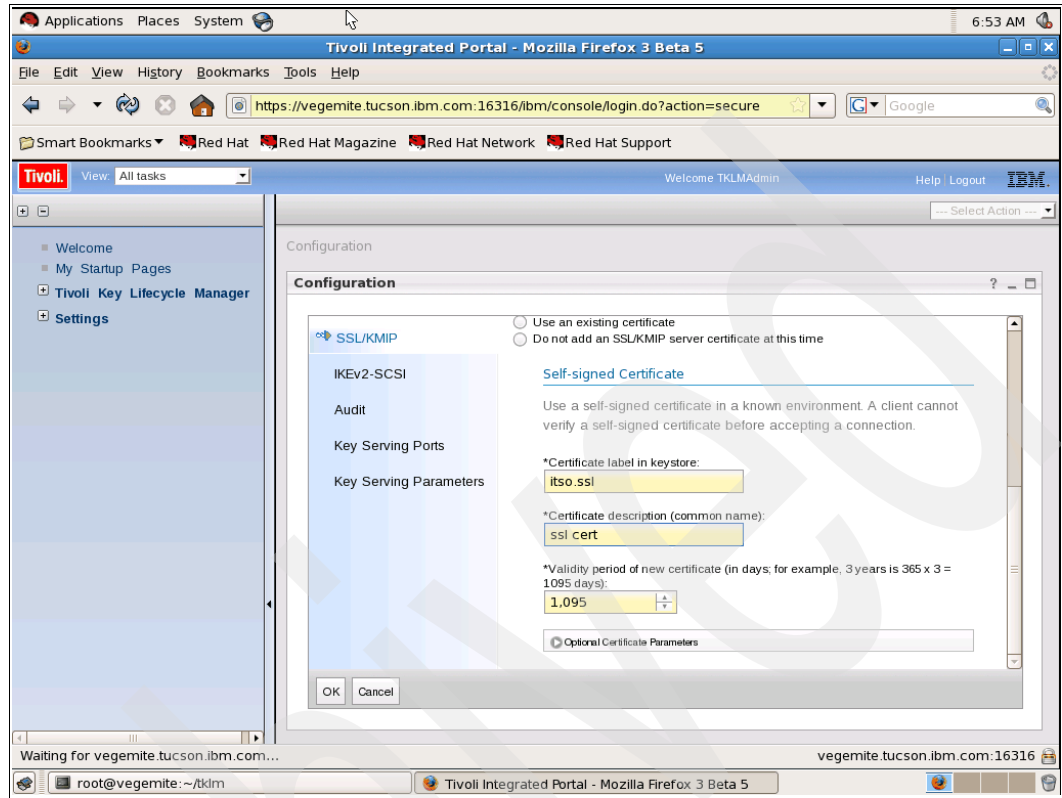

Figure 7-26 Key\_parameters
29. Enter the appropriate certificate label, description, and validity period. Click **OK** (Figure 7-26).